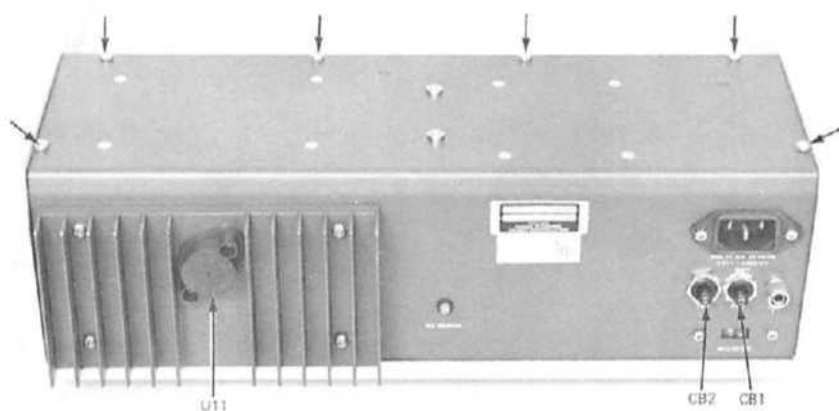

Figure 7-3. Quick-Mount Power Base Inner Circuitry.
4. The circuit board may be removed with capacitors C11 and C12 attached. Remove the two hex nuts just in front of the finned heat sink and loosen the capacitor clamps.(Figure 7-3).